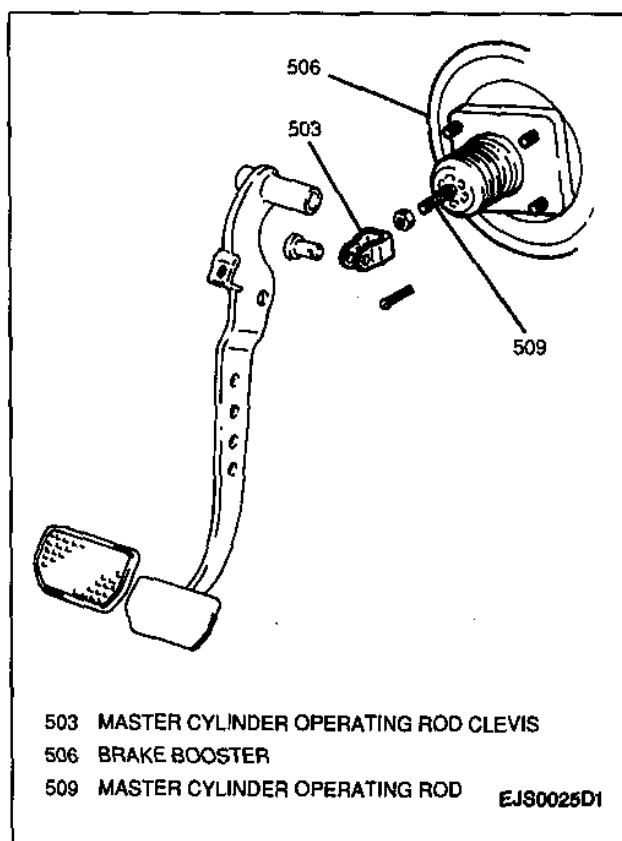

Figure 2—Brake Pedal-to-Master Cylinder Operating Rod Clevis
4. Cotter pin and clevis pin from master cylinder operating rod clevis and remove clevis from brake pedal (Figure 2).